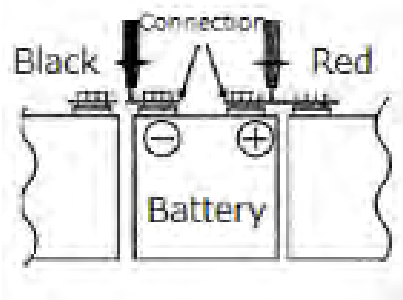

Figure-2 For pin type
- ④ For the pin type, make sure it makes perpendicular contact with the part being measured. (See Figure-2)
- ⑤ If the connection is loose, the internal resistance will be high. If it is high, check for a loose connection. If it is loose, retighten it and remeasure.
- ⑥ When measuring the internal resistance, do not measure between the main unit and the measuring lead wire through the support of the cubicle, etc. It cannot be measured accurately due to the influence of eddy currents.
- ⑦ If the measured value is abnormal, do not judge by one measurement.